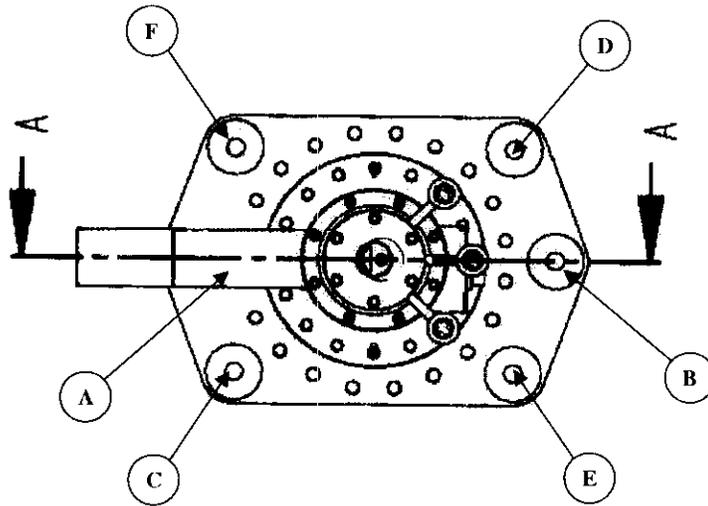

Figure 1.28.1.5 The specified sequence for tightening the Belleville Washer Assemblies.
1.28.2.2 Center the lower end of the lead in the chimney using the centering shim blocks. The Teflon inner centering shim blocks are labeled with an 'I' and go between the power lead and the lower insulator. The Teflon outer centering shim blocks are labeled with an 'O' and go between the lower insulator and the chimney. The installed Teflon centering shim blocks are shown in Figure 1.28.1.2.